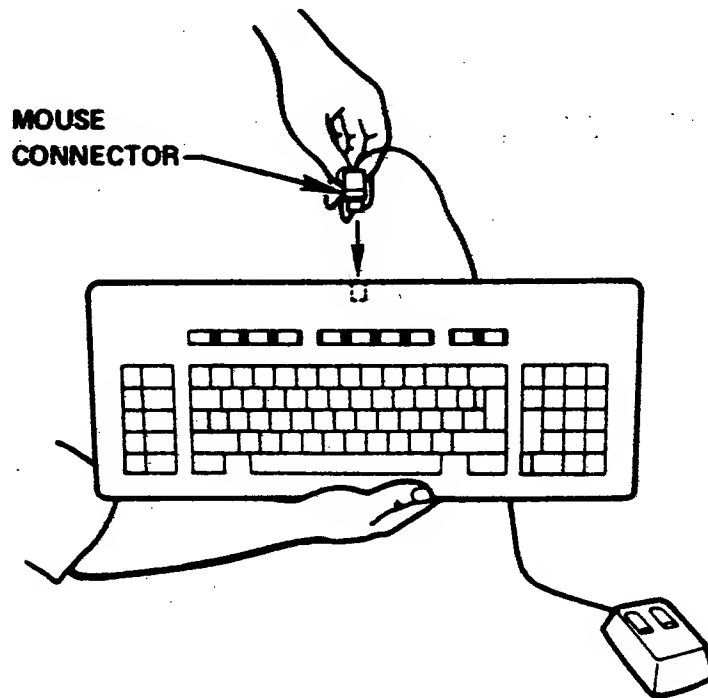

Figure 2-6. Connecting Optical Pointer to Keyboard
1. Connect the cable that is attached to the optical pointer to the connector located at the rear center of the keyboard (Figure 2-6). The grooves of the connector must be facing down.